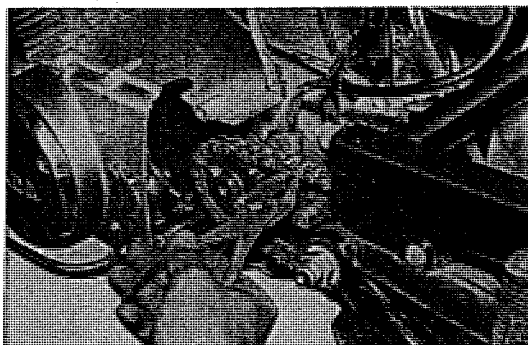

Fig. 3.6 Removing the drive chain joint
7. Rotate the rear wheel and remove the clip at the chain joint and the drive chain joint. (Refer to Fig. 3.6)